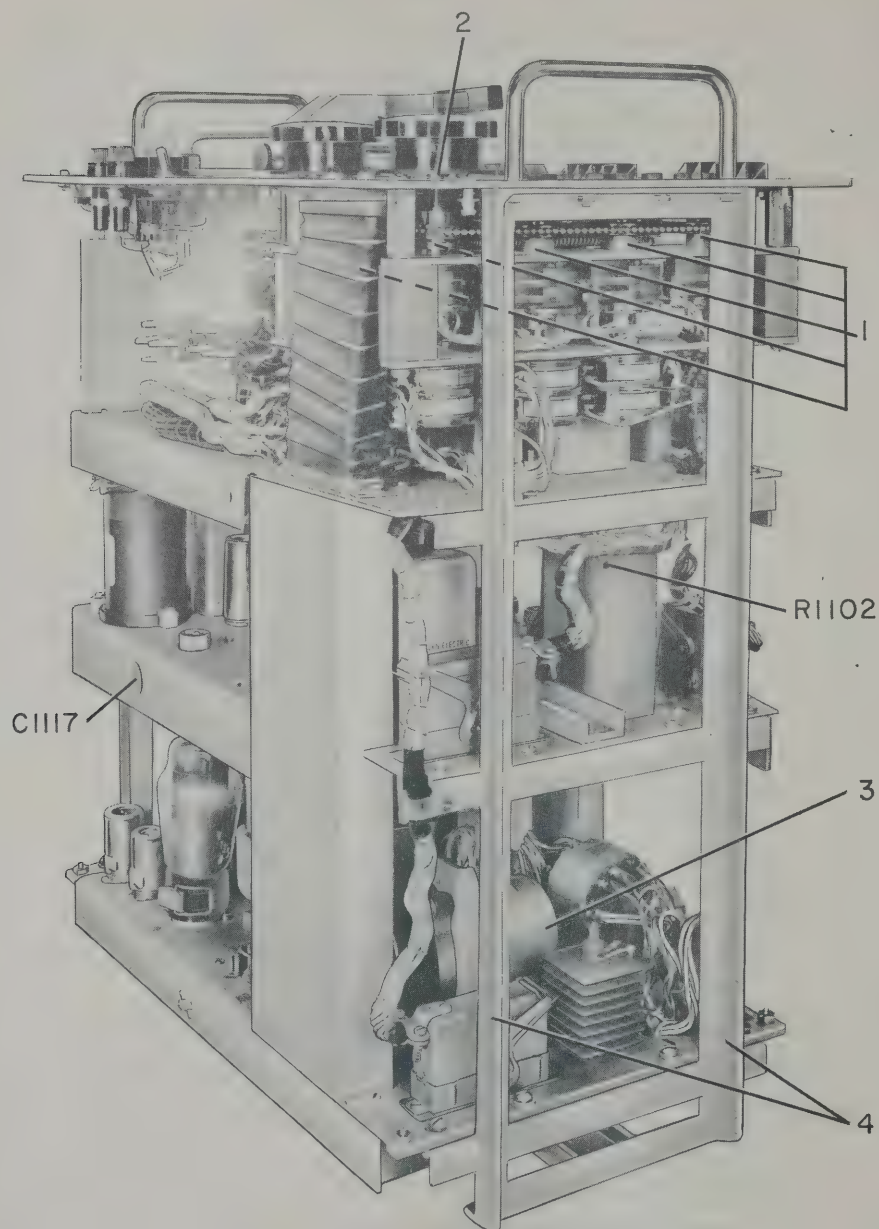

Figure 4-3. View of GS-17460 Test Set Removed from Case, Showing Lubrication Points and Two Adjustment Points
- b. Set the "V-M" switch to ACVM 25" and adjust the "ADJUST" control knob to set the AC level to 25 millivolts as read on the external meter. The pointer of the meter on the test set should be at 100. If it is not, readjust R1102 (screwdriver adjustment on Z1102, figures 4-3 and 4-4) for a reading of 100.
4-14. Points requiring lubrication on the GS-17460 Test Set are illustrated in figure 4-3. Numerals at the ends of identifying leader lines in this illustration match the numerals given in table 4-3.
4-16. In figure 4-3, the number 1 lubrication points can be reached without disassembly. The number 2 point can be reached by removing the "ADJUST" control knob. The number 3 point requires the removal of the power supply panel from the test set.
(Refer to figure 4-3)